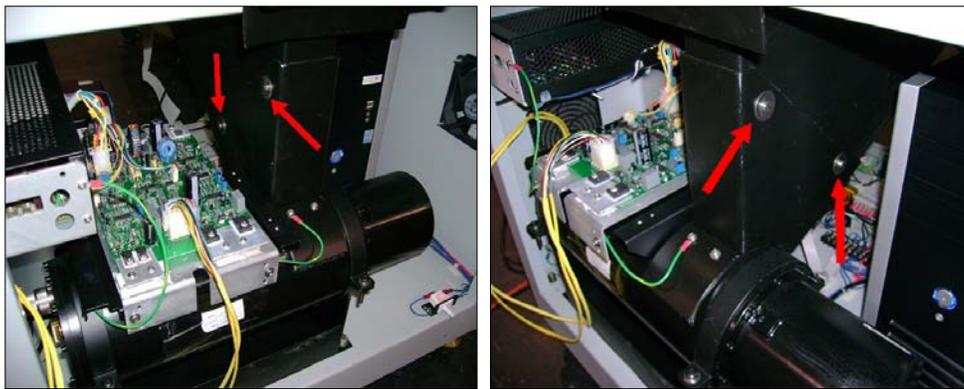

Figure 191: Funnel Bolts
6. Now remove the 4 bolts from both sides of the funnel (Figure 191).
12. Reattach the funnel cover with the four bolts (Figure 191).